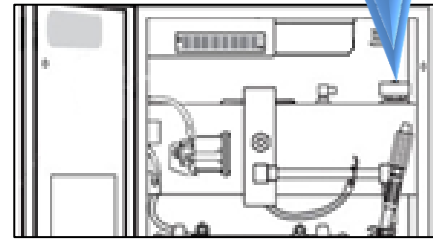

Figure 82
4. Locate the hydraulic reservoir filler cap in the top of the motor/ pump assembly (Figure 82). Remove the cap.